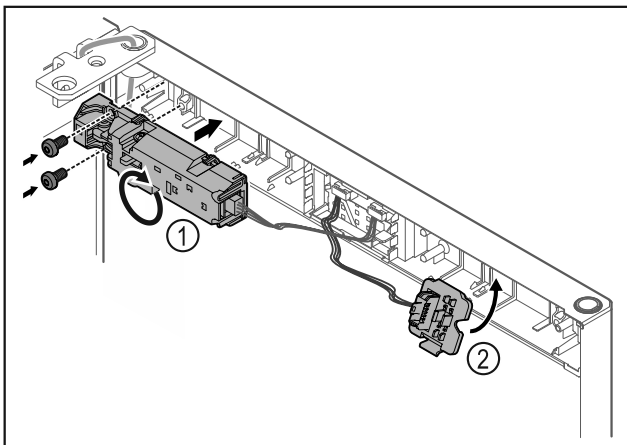

Fig. 18
- ▶ Turn the remote lock Fig. 18 (1) by 180° and fasten it on the opposite side.
- ▶ Snap in the plug holder Fig. 18 (2) on the opposite side.